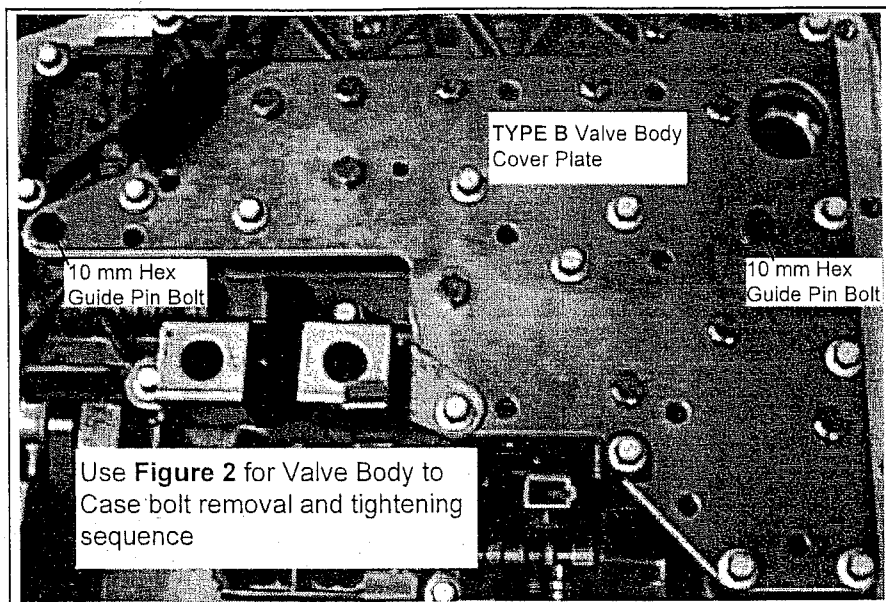

Figure 13. 1996-1999 (TYPE B) Valve Body Cover Plate
Step 11. ('96-'99 TYPE B ONLY) remove thirteen (13) 10mm hex head valve body cover plate bolts (See Fig. 13). Remove old gasket and replace with the new gasket from kit. Reinstall bolts and torque to 9-11 Nm (80-100 lb*in). **Note:** If the two (2) Guide Pin Bolt Heads (See Fig. 2) are 13mm